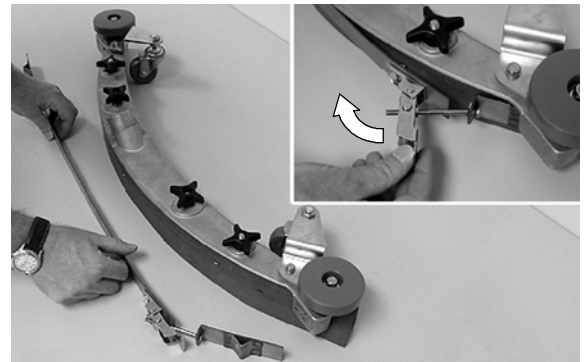

FIG. 58
2. Loosen the band clamp and remove the band from the squeegee assembly (Figure 58).